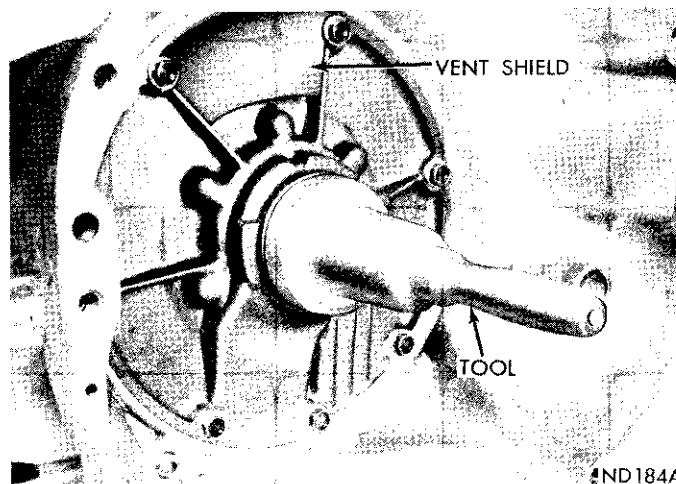

Fig. 33—Installing Pump Oil Seal
(2) To install a new seal, place the seal in opening of the pump housing (lip side facing inward). Using Tool C-3860, drive the seal into housing until tool bottoms (Fig. 33).